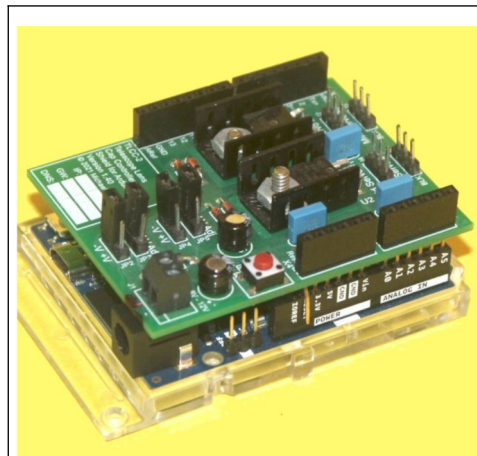

Figure 3: TLCC stack
- Two electronic circuit boards plugged together called the “stack” (**Figure 3**).
Figure 3 shows the TLCC stack. The Arduino is on the bottom. The servo shield on top has headers with pins that plug into the Arduino’s sockets. The servo shield’s headers also have sockets, but the TLCC has no other shield above it.
Important. The servo shield contains circuitry to reset the Arduino on power-up, but recent Arduino versions do not respond well to this external reset. Consequently, the Reset pin on the servo shield is bent outward, and does not mate with the socket on the Arduino board, as seen in this photo. You also can see this in Figure 3, above.